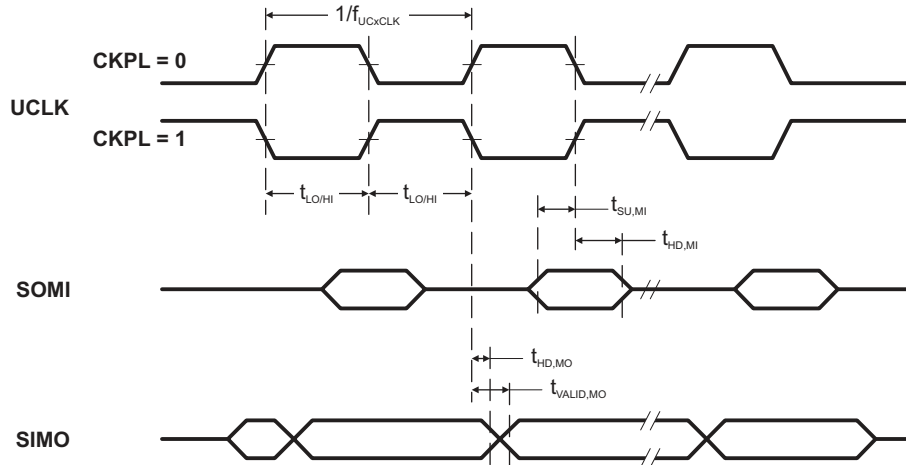
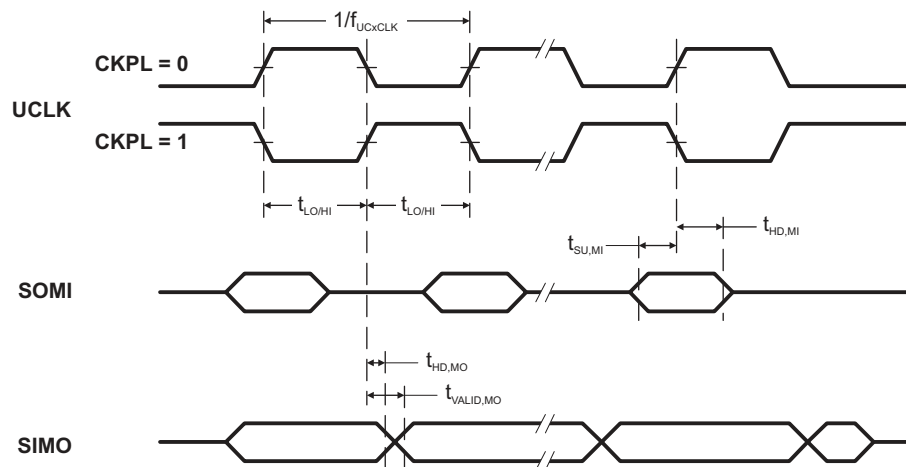

Figure 12. SPI Master Mode, CKPH = 0
Figure 13. SPI Master Mode, CKPH = 1
(see Note (1), Figure 12 and Figure 13)
- (2) Specifies the time to drive the next valid data to the SIMO output after the output changing UCLK clock edge. See the timing diagrams in Figure 12 and Figure 13.
- (3) Specifies how long data on the SIMO output is valid after the output changing UCLK clock edge. Negative values indicate that the data on the SIMO output can become invalid before the output changing clock edge observed on UCLK. See the timing diagrams in Figure 12 and Figure 13.
- (2) Specifies the time to drive the next valid data to the SOMI output after the output changing UCLK clock edge. See the timing diagrams in Figure 12 and Figure 13.
- (3) Specifies how long data on the SOMI output is valid after the output changing UCLK clock edge. See the timing diagrams in Figure 12 and Figure 13.